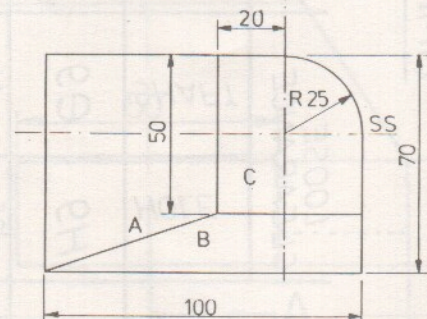

FIG. 2. FIG. 2.
2. The plan and elevation of a ventilation system duct are shown in Fig. 2.